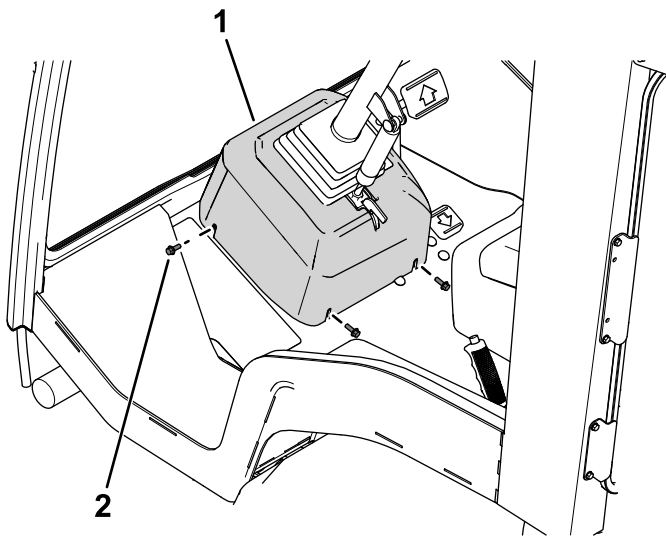

Figure 9
9. Install the steering cover (Figure 9).